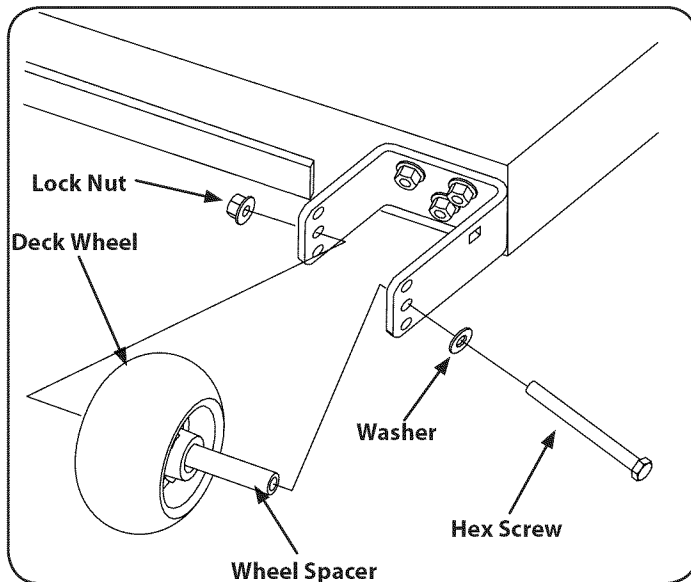

Figure 35
2. Remove the lock nut securing one of the front gauge wheel shoulder screws to the deck. Remove the gauge wheel and hex screw. Refer to Figure 35.